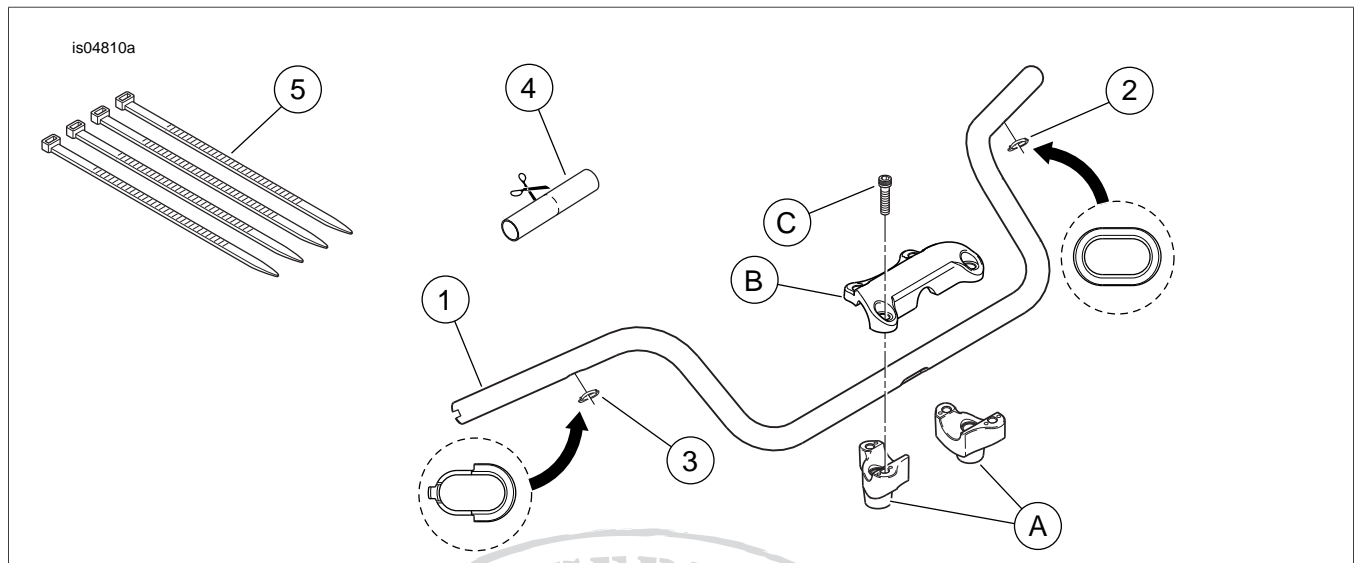

Figure 4. Service Parts: Handlebar Kits
- See Figure 4. Cut the rubber sleeve (2) into two equal lengths. Slide a section of the sleeve onto each of the switch wire bundles, over the flexible conduit, positioning the outboard edge of the sleeve against the inboard switch end.